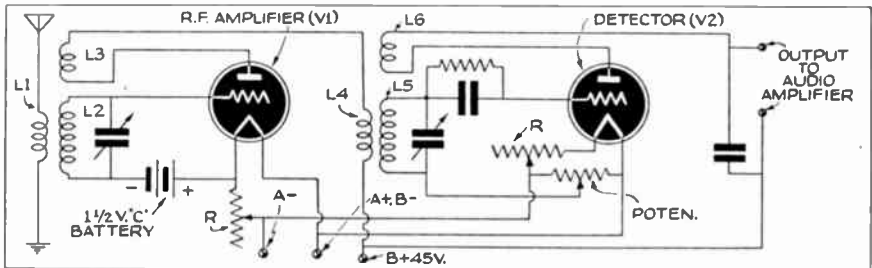

Fig. 14
(A) This circuit, which we reproduce as Fig. 14, is quite practical, if the operator does not object to the difficulty of tuning. This arrangement is only for those who have infinite patience, and due appreciation of what happens in a neighbor's radio set when circuits such as this are adjusted.